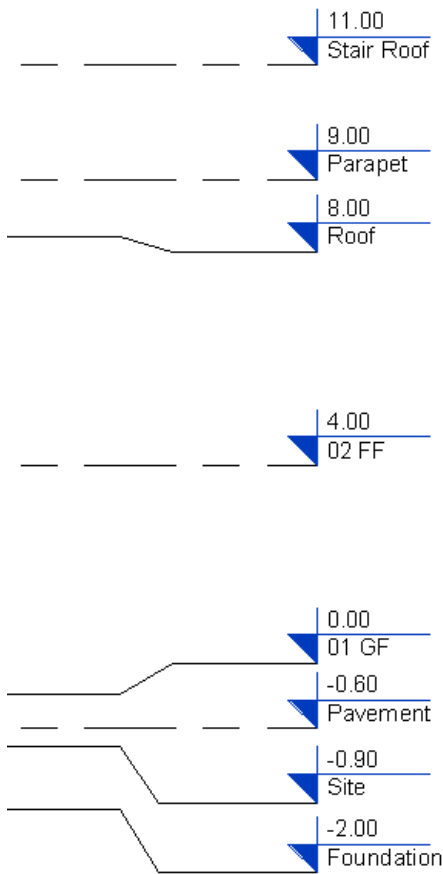

Fig. 1.13 – Project levels
11. Select other levels (press CTRL and select all levels) → In type selector, select 8mm Head Triangle Spot. Level Symbols will change as shown in Fig. 1.13.
5. Adjust all levels as shown in Fig 1.13.